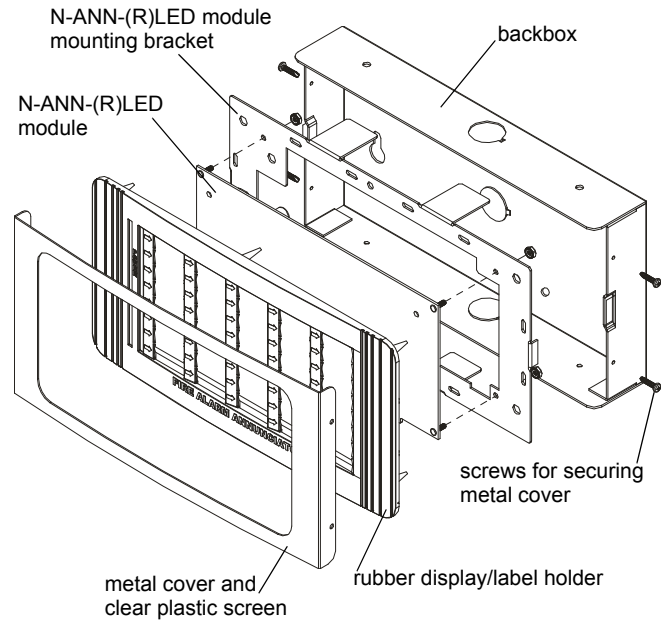

Figure 2 N-ANN-LED Series Exploded View
Figure 2 provides an exploded view of the N-ANN-(R)LED Series components.
The following steps describe the installation procedure for the N-ANN-LED Series. Refer to Figure 2 for component locations.
7. Reassemble the unit using Figure 2, “N-ANN-LED Series Exploded View” on page 1 as a guide.
1. Remove the four (4) screws securing the metal cover to the backbox, remove the cover with clear plastic screen and set aside.
2. Remove the rubber display/label holder, N-ANN-(R)LED module and mounting bracket as a single unit by sliding the two tabs on the side of the mounting bracket, away from the backbox. Refer to Figure 2 for component locations.
10. Reassemble unit using Figure 2 as guide.